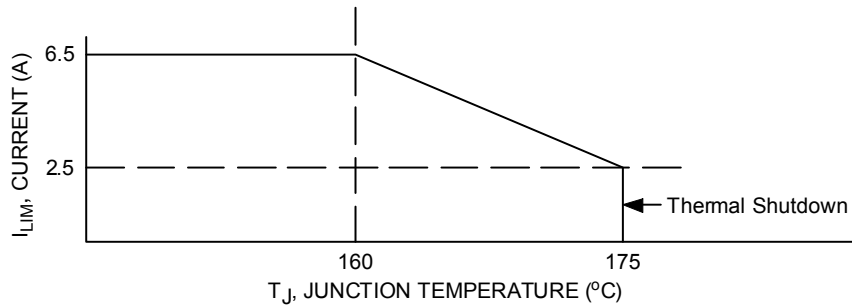
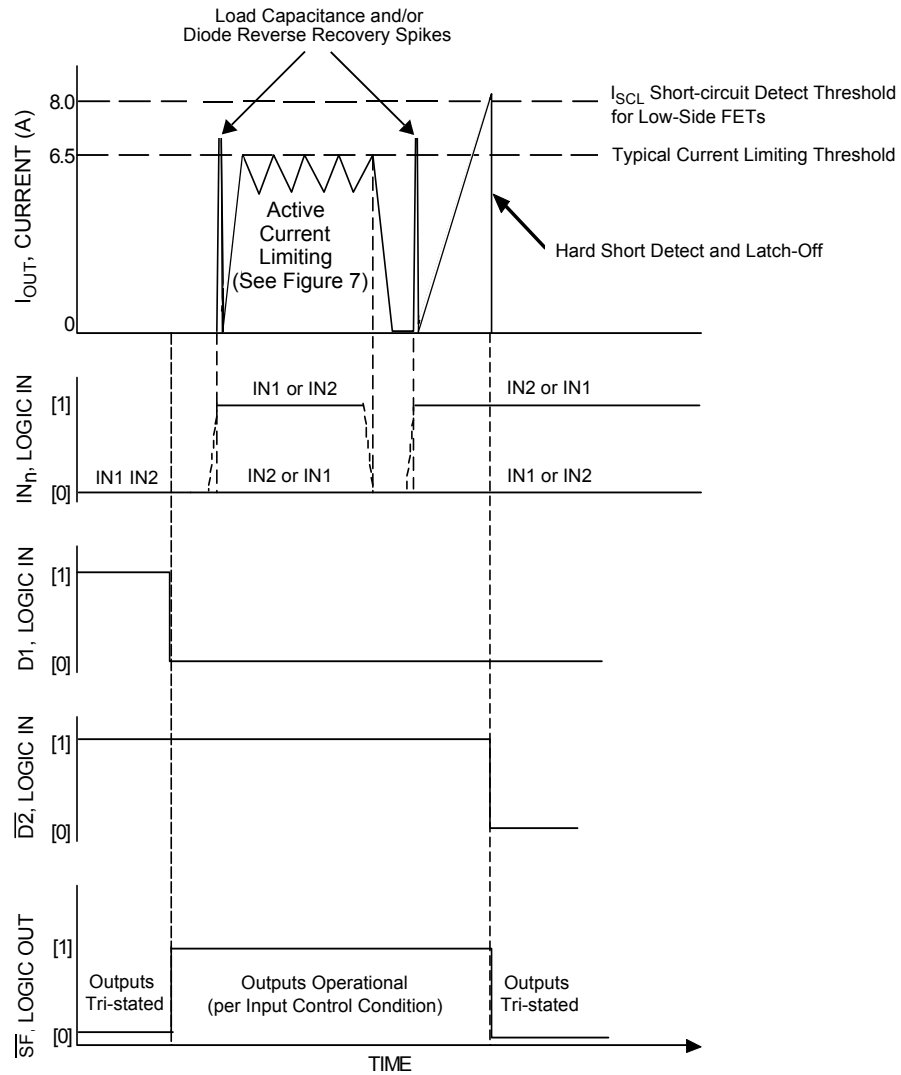

Figure 7. Active Current Limiting Versus Temperature (Typical)
Figure 8. Active Current Limiting Versus Time
26. Increasing currents will become limited at I_{LIM}. Hard shorts will breach the I_{SCH} or I_{SCL} limit, forcing the output into an immediate tri-state latch-OFF. See Figures 8 and 9, page 9. Active current limiting will cause junction temperatures to rise. A junction temperature above 160 °C will cause the active current limiting to progressively “fold-back” (or decrease) to 2.5 A typical at 175 °C where thermal latch-OFF will occur. See Figure 7, page 8.
The current limiting threshold value is dependent upon the device junction temperature. When $-40\text{ }^\circ\text{C} < T_J < 160\text{ }^\circ\text{C}$, I_{LIM} is between 5.2 A and 7.8 A. When T_J exceeds $160\text{ }^\circ\text{C}$, the I_{LIM} current decreases linearly down to 2.5 A typical at $175\text{ }^\circ\text{C}$. Above $175\text{ }^\circ\text{C}$ the device over-temperature circuit detects T_{LIM} and over-temperature shutdown occurs (see Figure 7, page 8). This feature allows the device to remain